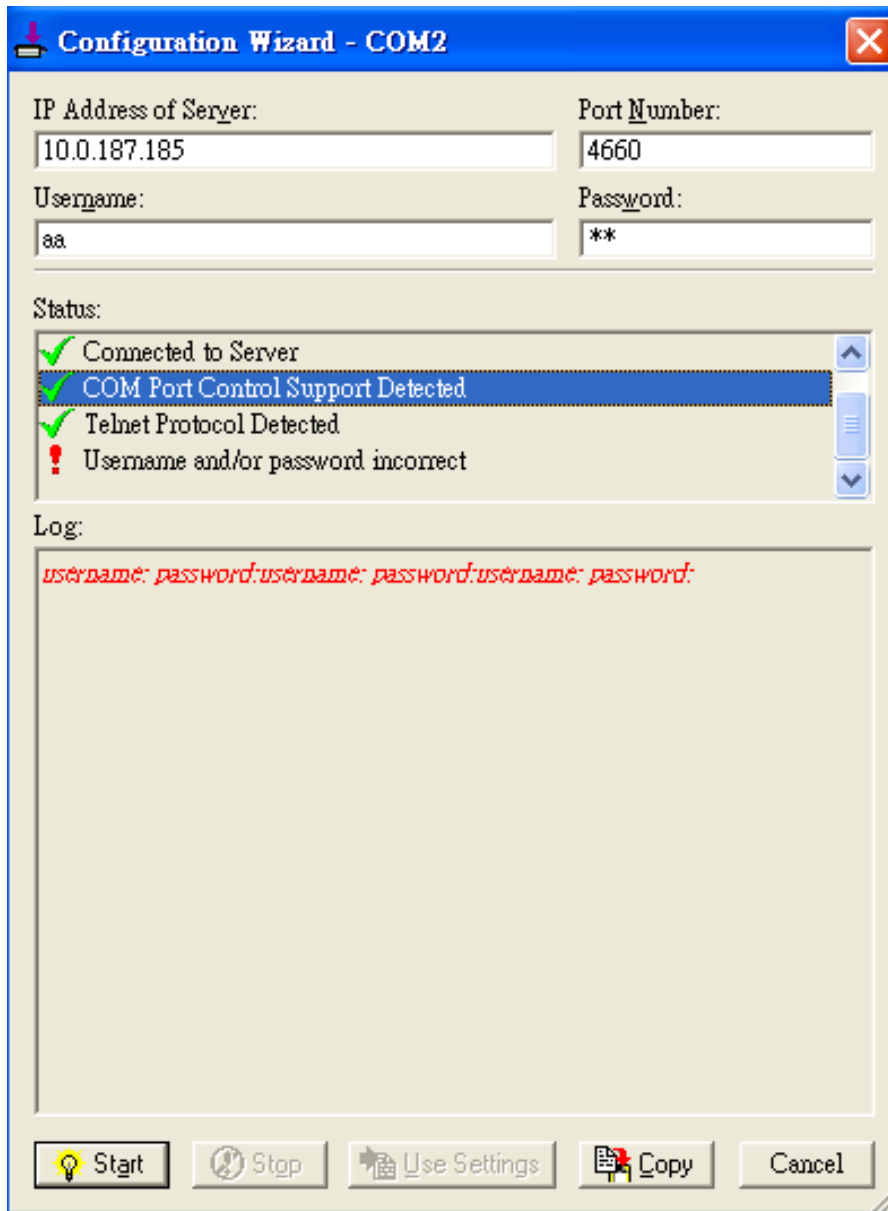

Figure 6.15 VCOM Authentication failed due to incorrect Username and/or Password
- If the status reports with an exclamation mark with a message “Username and/or password incorrect” as shown in Figure 6.15. This means that the wrong username and/or password were entered and the authentication process failed.